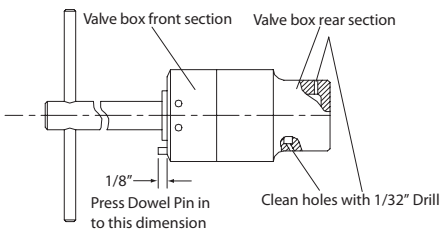

figure 4
- f. Slide the rear section of the Valve Box over the Valve and assemble it on the front section as shown in Figure 4. Lap the Valve until it fits freely in the assembled Valve Box.
3. Apply 6 or 8 drops of light oil to the external surface of the Valve and assemble it with the Dowel Pin (1) in the Valve Box. Shake the assembly to see that the Valve moves freely in the Valve Box..